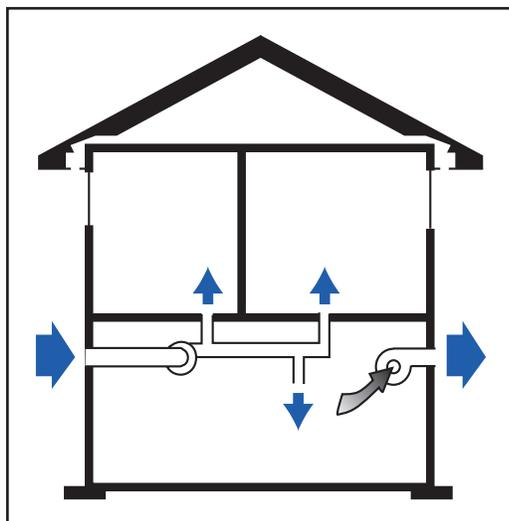

Fig. F-16: Balanced system
- **Balanced.** There are two types of balanced systems: heat recovery and non-heat recovery. Both types bring in as much air as is exhausted. This ensures the same amount of fresh air supplied as stale air exhausted (see Figure F-16). A balanced system maintains a neutral pressure inside the house.